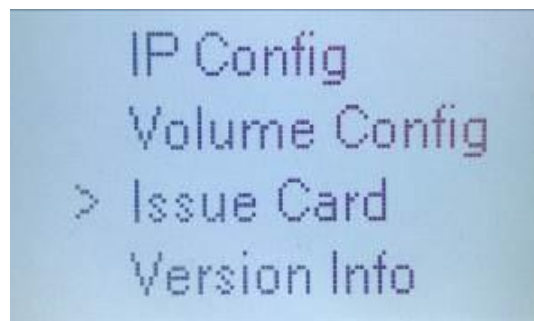

Figure 4-2
- b) Click Issue card and then click "#" to confirm. See Figure 4-2.